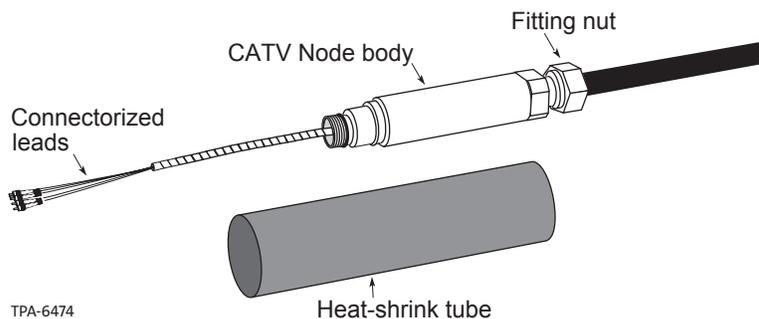

Figure 2
**Step 3:** Unpack the cable coil\*. Use caution when handling the connectorized end of the cable. The cable stub should appear as in Figure 2, with connectorized leads, a CATV Node Assembly body, and a fitting nut already attached. A length of heat-shrink tubing is also provided to be used with the straight version.